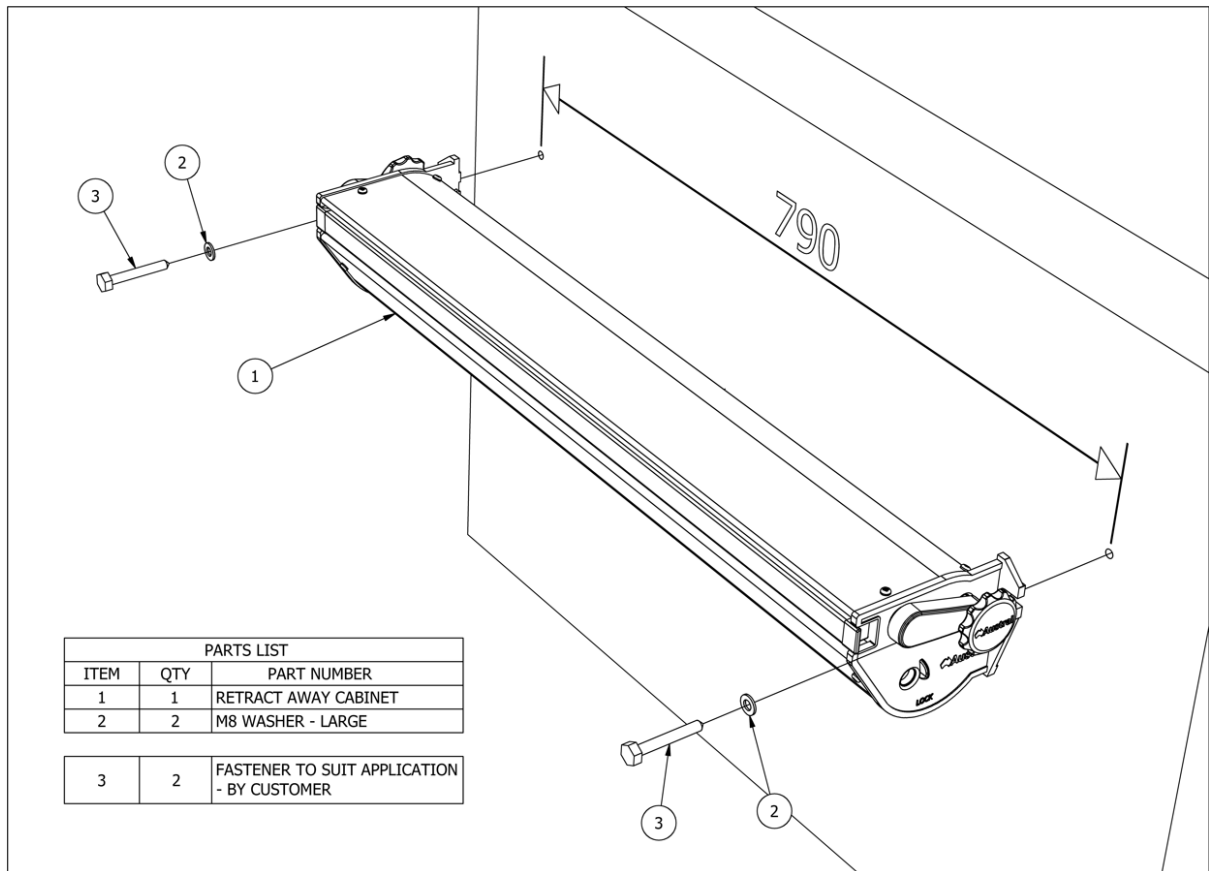

Fig 1. Cabinet installation to wall.
- Fit Cabinet (item 1) using fixings that suit your application. See Fig 1. (Fixings not supplied).